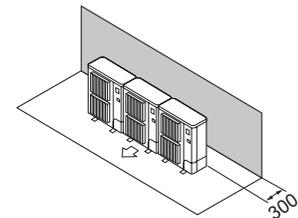

Fig. 2-9
- ① Ostacoli posteriori (Fig. 2-9)